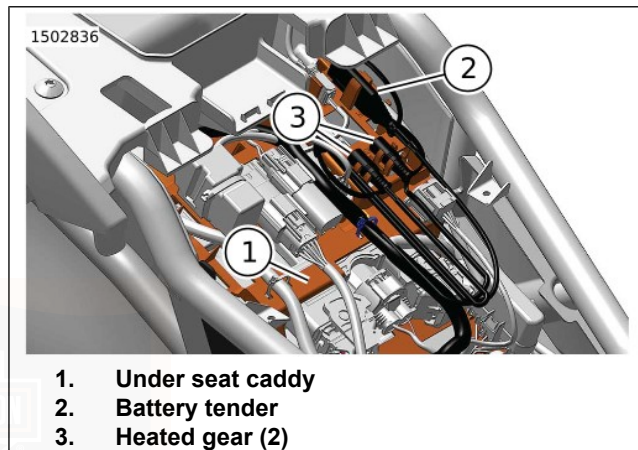

Figure 43. Under Seat
Figure 43 The heated gear connectors (3) are stored under the seat in the under seat caddy (1). When in use, heated gear connectors must be routed properly to prevent damage.
2. Figure 43 Remove the heated gear connectors (3) from storage location on under seat caddy (1).